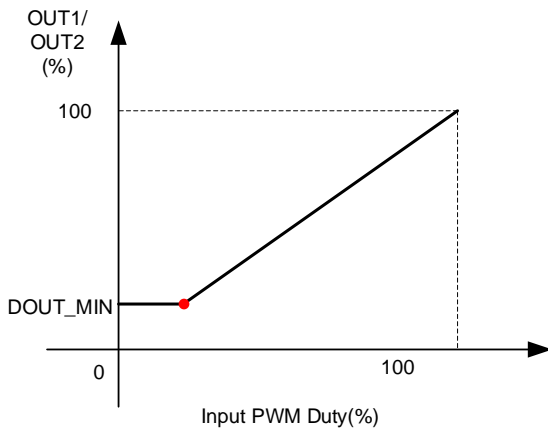

Figure 3: Speed Curve (SPD\_ZERO = 0)
**Mode 2:** If SPD\_ZERO = 0, then the minimum output duty cycle is limited by DOUT\_MIN (see Figure 3).